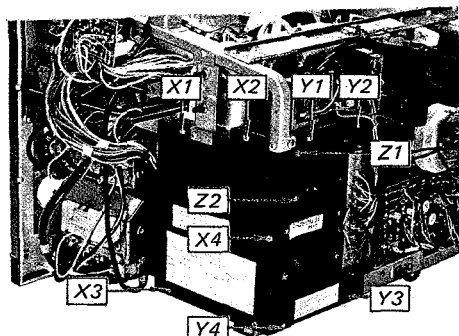

Fig. 2-32.
6. Remove the four screws labeled X1 ~ 4 in Fig. 2-32.
- 9. Remove the four screws labeled Y1~4 in Fig. 2-32.
- 11. Replace the horizontal output transformer by removing the two screws labeled Z1~2 in Fig. 2-32.